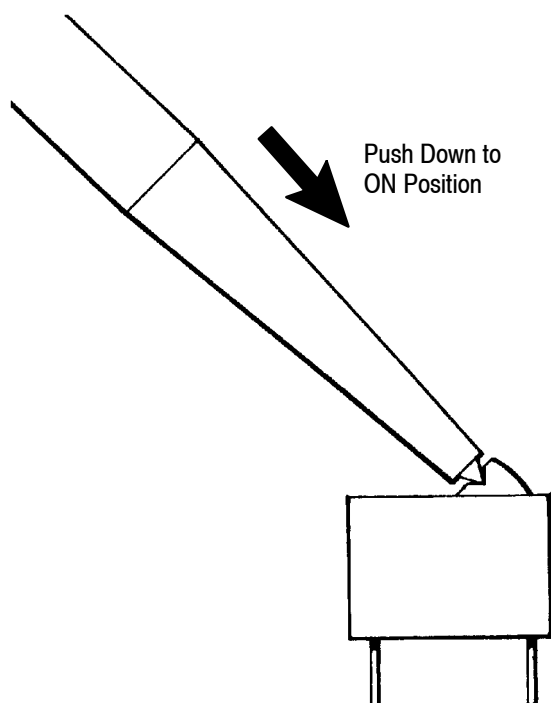

Figure 7
2. Determine which circuits are to be closed, then depress applicable rockers to ON position. Refer to Figure 7.